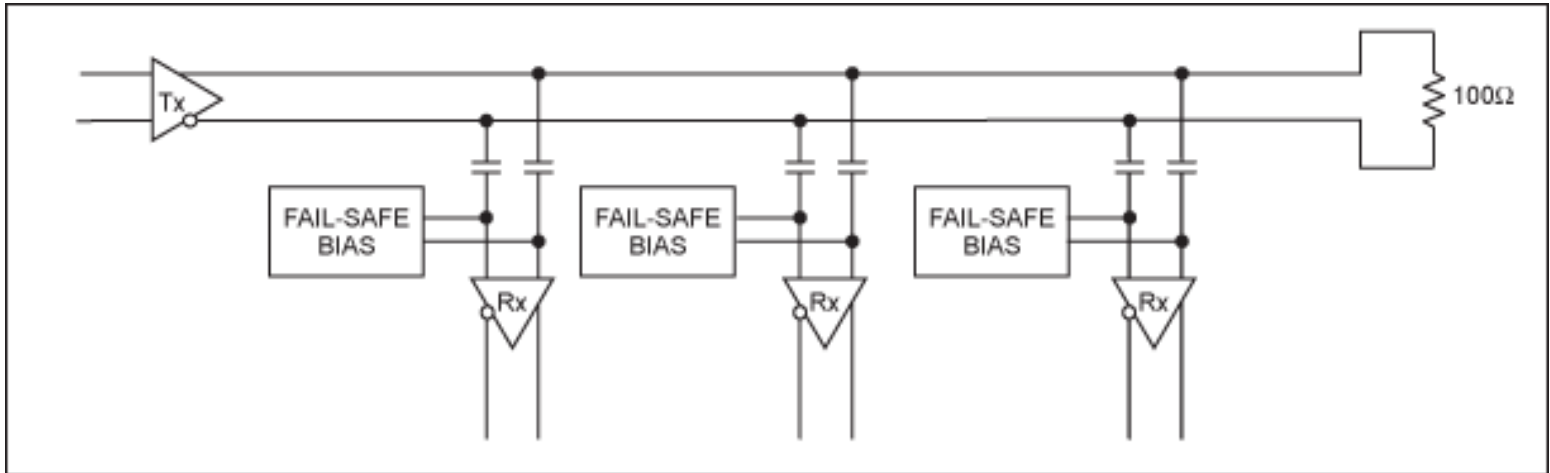

Figure 1. Short connections should be used between the bus and receiver inputs of an AC-coupled, LVDS multidrop bus.
**Figure 1** shows the block diagram of a typical multidrop LVDS bus. The connection length between the bus and the receiver inputs should be as short as possible. The fail-safe biasing circuit shown in Figure 1 provides a common-mode bias around 1.2V. When the bus is not driven by the Tx, or the bus has no state transition for a long time, the circuit also sets a small, 50mV to 100mV differential voltage to drive the LVDS receiver output to a determined logic state. For a general discussion of LVDS fail-safe circuits, refer to Application Note 3662: Understanding LVDS Fail-Safe Circuits.